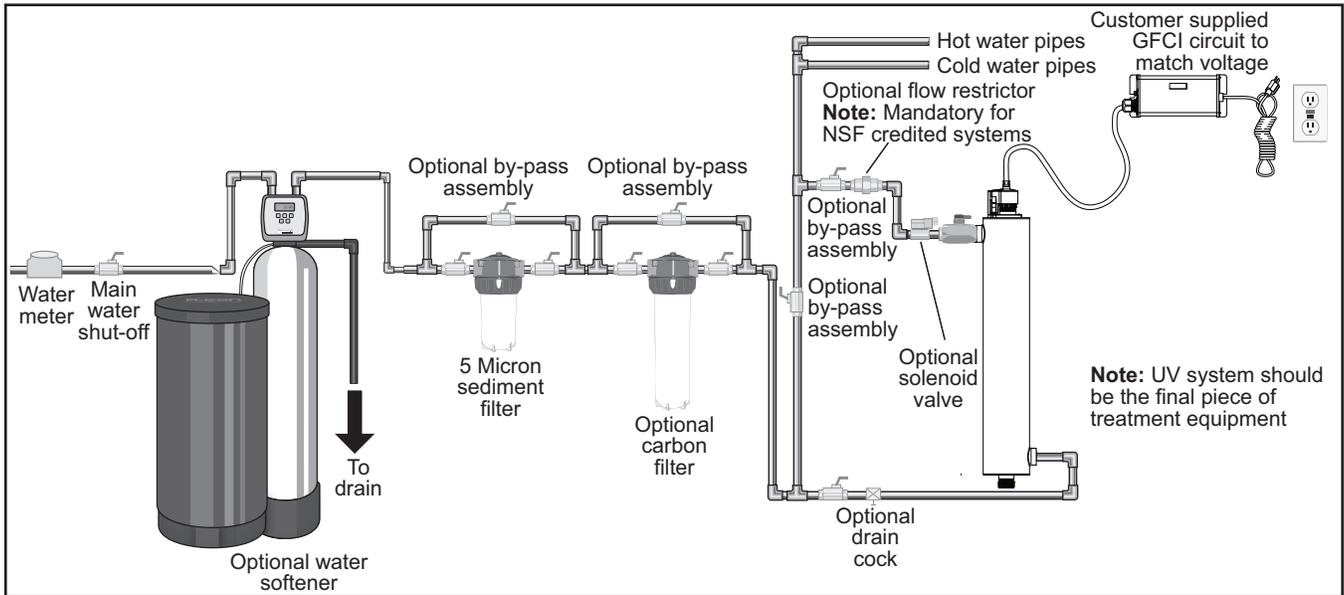

Figure 3 Disinfection System
1. **Figure 3** shows the installation of a typical disinfection system and the related components that may be used for the installation. The use of a by-pass assembly is recommended in case the system requires “off-line” maintenance. In this case, note the system requires a supplementary disinfection for the distribution system if any water is used during by-pass condition. In addition, during by-pass, the water will NOT be disinfected and a “DO NOT CONSUME THE WATER” tag should be physically installed on the by-pass assembly until such time as the system is sanitized and returned to service. For more information, refer to **Section 3.2**. If the water is to be consumed while the system is off-line, the water must be boiled for twenty minutes prior to consumption.